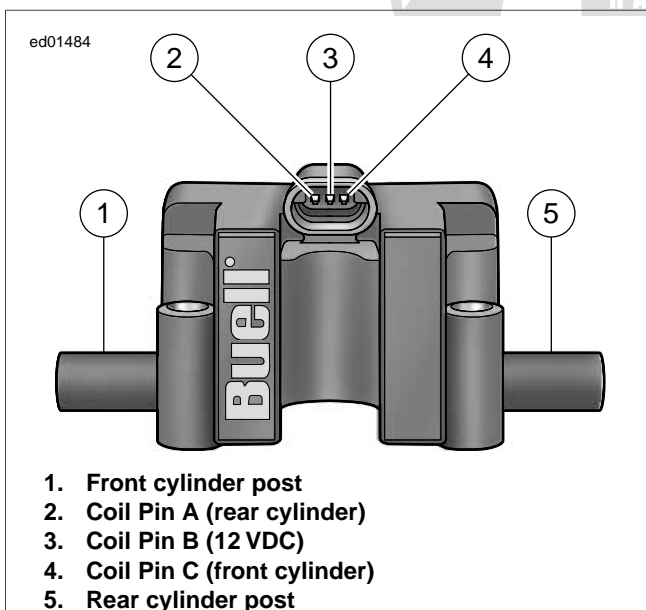

Figure 2-113. Ignition Coil
See Figure 2-113. The ignition coil receives power from the ignition relay at ignition coil pin B (3) at the same time that the fuel pump and fuel injectors are activated.